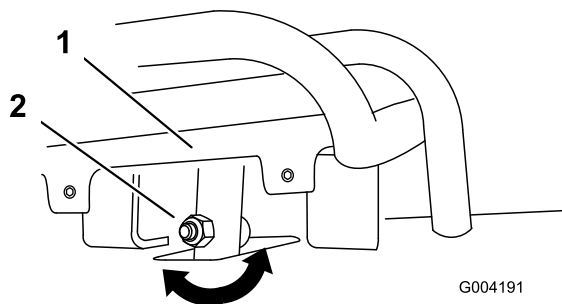
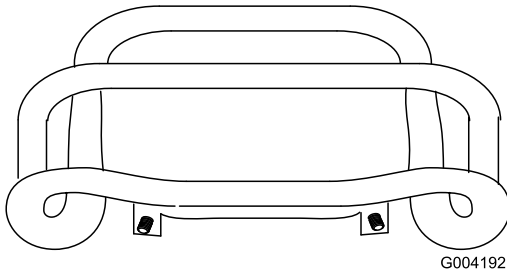

Figure 67
Figure 68
4. If the front of the traction control does not rest square and flush with the reference bar, loosen the flange nut and bolt in the stem of the traction control (Figure 67).
5. Adjust the traction control so that it rests flush against the reference bar when it is pulled straight back (Figure 67 and Figure 68).